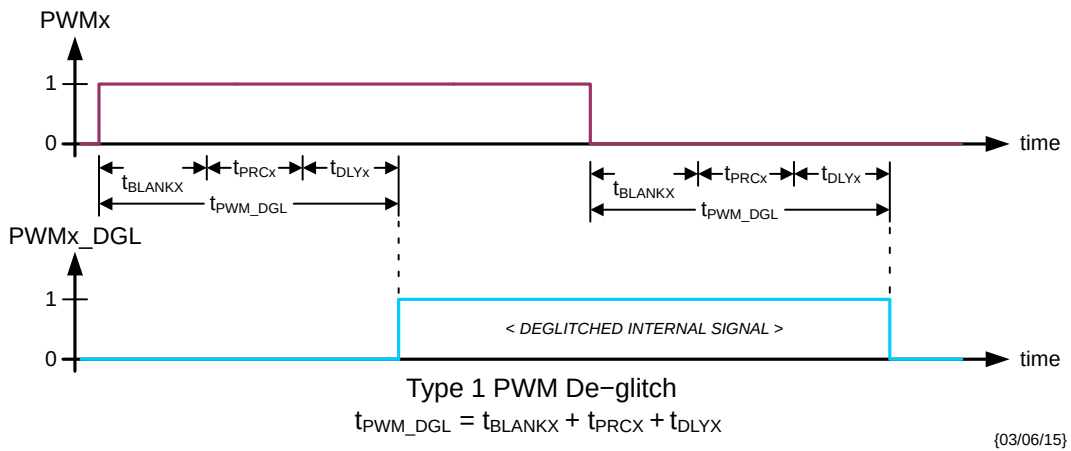
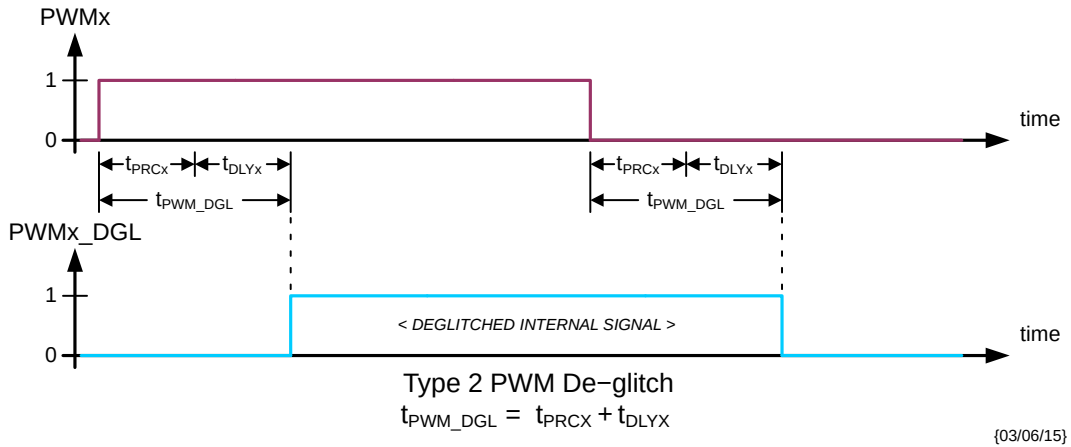
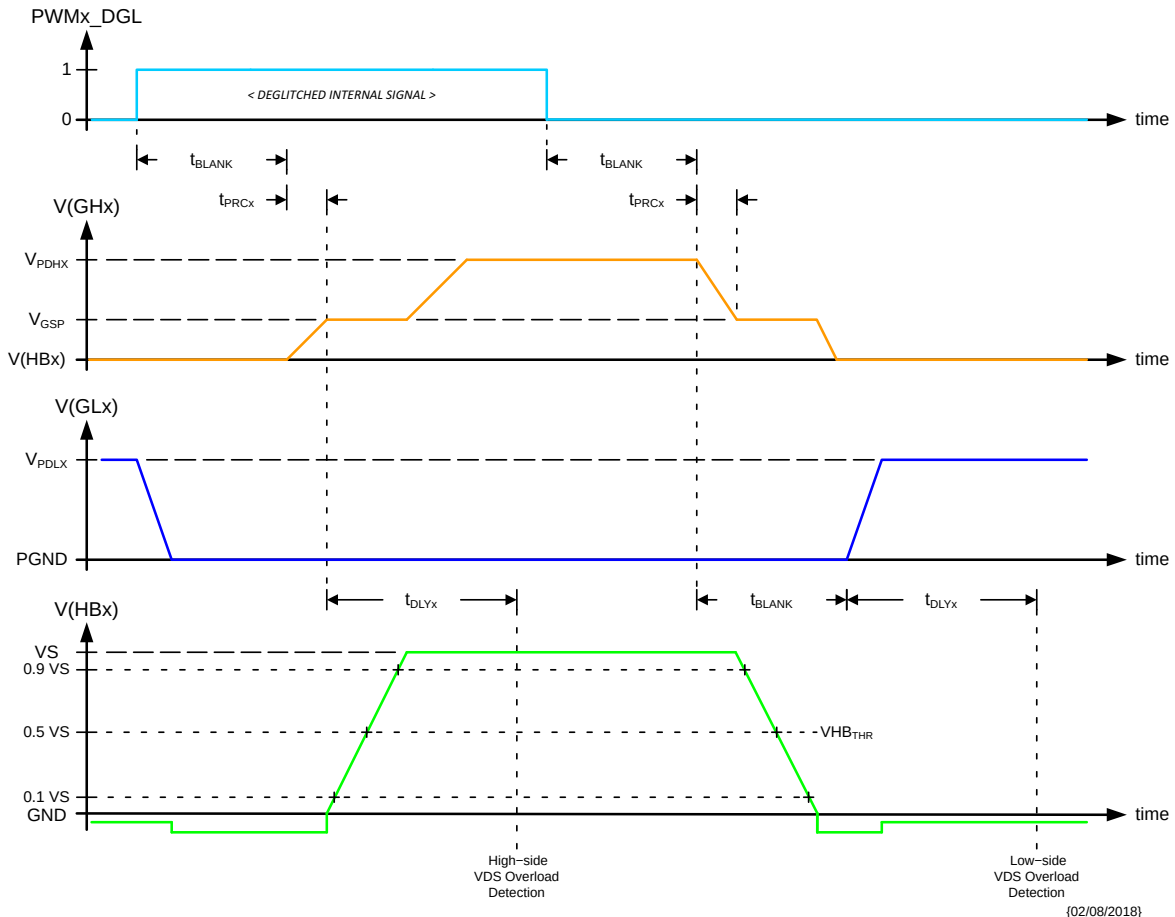

Figure 10. Type 1 PWMx Input De-glitch – $CR14.DGLx = 0$
Figure 11. Type 2 PWMx Input De-glitch – $CR14.DGLx = 1$
Figure 12. HBx Output Switching in Half-Bridge Configuration
When multiple PWMx inputs are needed to be active, the scheduled PWM signals should be offset in time to avoid degradation of the VDS overload detection due to crosstalk (see § *Overload Protection*). The minimum offset should be based on the t_{PWM_DGL} times appropriate for the respective channels (see § *Switching Behavior of Half-bridge Drivers*, Figure 10 and Figure 11).
- adaptive PWM input de-glitch construction when in half-bridge configuration is selected by DGLx[6:0] bits (see Figure 10, Figure 11, Table 21 and Table 22).
In order to not overload the charge pump circuit in case of loss of VS or in case of a disconnected security switch, the steady state output current of the high-side gate drivers is limited to I_{GHX_SS} after $t_{TIMEOUT}$ (see I_{GHX} in Figure 12 and § *Electrical Characteristics: Half-Bridge Pre-Driver Outputs*).
When operating in PWM mode, type 1 de-glitch is selected when $CR14.DGLx = 0$ (see Figure 10) and the adapted time is given by:
Type 2 de-glitch is selected when $CR14.DGLx = 1$ (see Figure 11) and the adapted time is given by:
When operating in PWM mode, the timing of the gate drivers is according to Figure 12.
- the PWMx_DGL resulting from the channel's operating configuration (see § *Switching Behavior of Half-bridge Drivers*, Figure 10 and Figure 11);
The appropriate latch is set (after the adapted t_{PWM_DGL} – see Figure 10 and Figure 11) at the start of the switch activation (see V(HBx) in Figure 12). In the case of the high-side MOS, the delay time t_{DLYX} is started at the end of the pre-charge time (t_{PRCX}). In the case of the low-side MOS, the delay time t_{DLYX} is started concurrent with the GLx turn-on current (see I(GLx) in Figure 11). At the end of time t_{DLYX} the switching node voltage is compared with the appropriate VDS_{THR_R} or VDS_{THR_F} overload detection threshold (see § *Electrical Characteristics: Half-Bridge Diagnostics*).